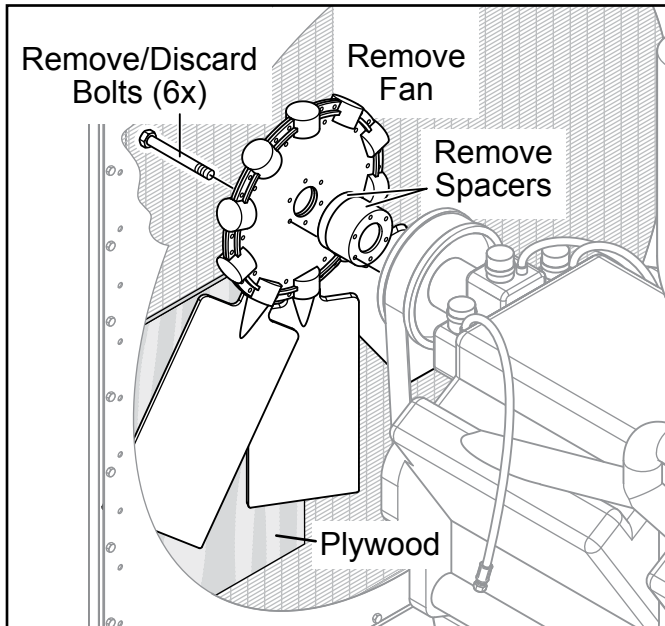

Figure 8. Removing the Fan
The radiator fins can be easily damaged if the fan or shroud hit it while they are being installed. Because of the limited space to move parts around, utmost care should be taken when removing and installing the fan and shroud so that they do not hit the radiator fins. Use pieces of plywood (Figure 8) to temporarily protect the radiator fins during the removal and installation.
2. Remove the 6 bolts holding the fan hub in place then remove the 2 spacers (3-inch and 1-inch) behind the fan. The spacers will be reused but the bolts will be replaced in the installation of the new fan. See Figure 8.